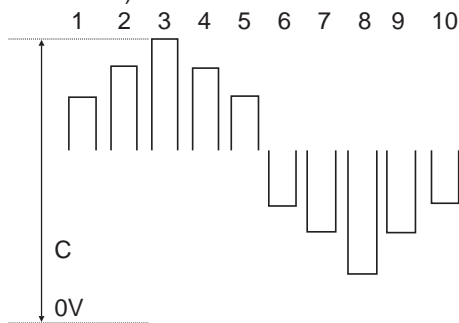

Fig. 1
- 2.1. Adjust [C] for 5.0±0.2V through the BRIGHT control variation according to fig. 1.
- 2.2. Adjust the NTSC SUB-TINT level according to fig. 1 positions 2, 3 and 4.